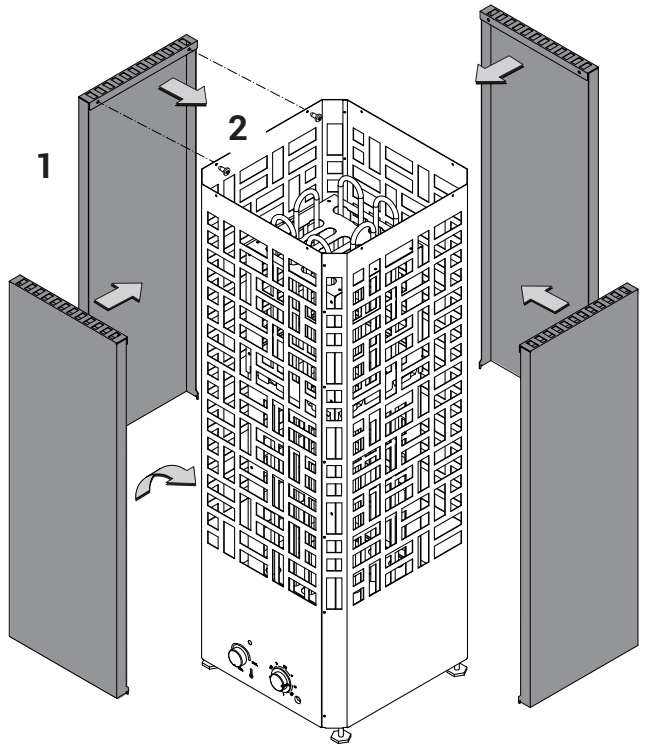

Fig. 7
- First insert the bottom end tongues of the panel into the openings in the heater shell, then put the upper part over the top edge of the outer shell (Fig.7).
- Secure each side panel with 2 supplied screws (Fig. 7).